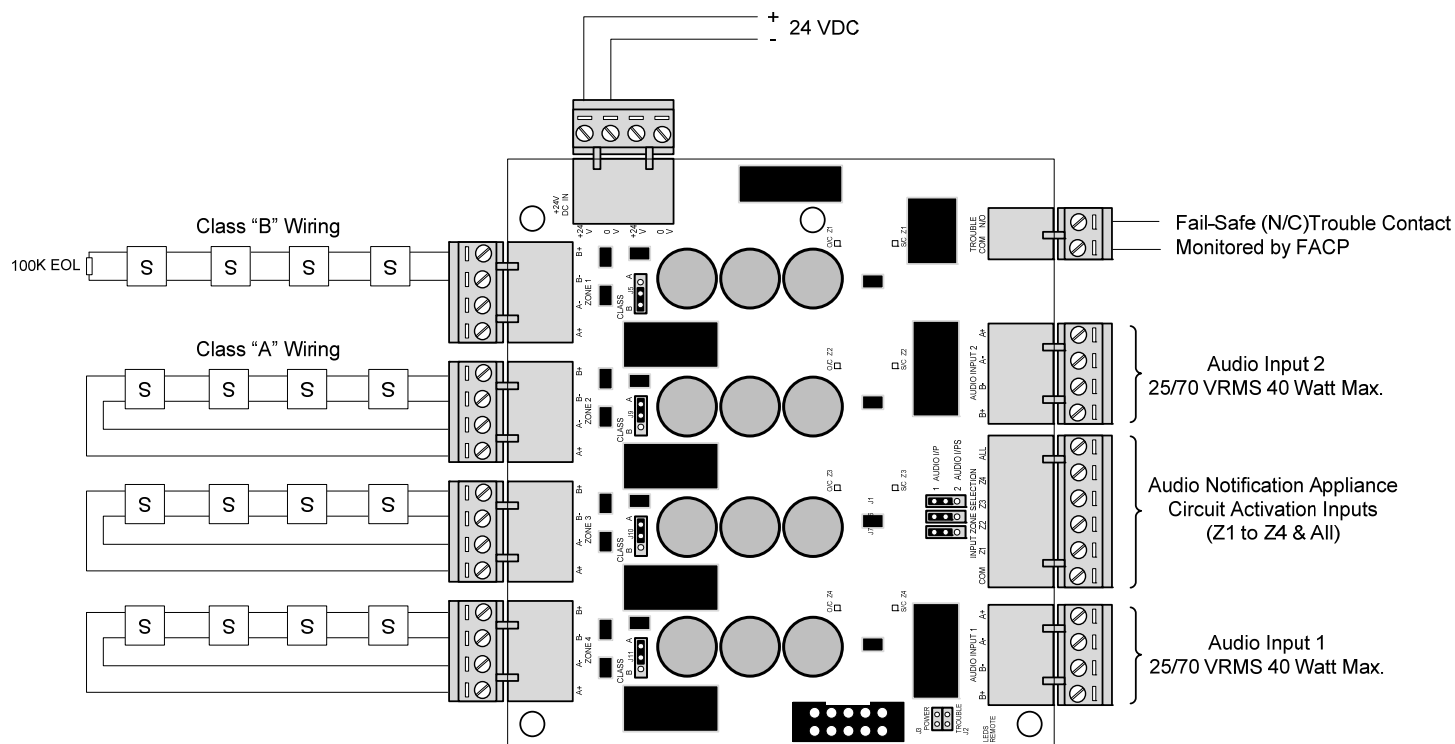

Figure 26 –AV-ZS Audio Zone Splitter Module
Wire 24 VDC (from AV-AMP-80 power output terminals) to the power input terminals of the AV-ZS audio zone splitter module. Wire one or both AV-AMP-80 amplifiers (audio notification appliance circuits) to the Audio Input 1 and Audio Input 2 terminals of the AV-ZS module and set jumpers J6 and J7 to their appropriate position [1 audio input or 2] (see figure 26).
Note: The AV-ZS audio zone splitter module reports status open circuit, short circuit and grounds via the associated AV-AMP-80 amplifier (audio notification appliance circuit). In addition, a fail-safe trouble relay contact is available which opens on any splitter audio notification appliance circuit trouble condition or on loss of 24 VDC input power, this trouble relay contact can be monitored for individual AV-ZS trouble indication (see figure 26).
If replacing an AV-ZS audio zone splitter module, remove power (AC and battery) from the system. Remove all field wiring terminal blocks from the AV-ZS module and remove the three (3) screws securing the module to the AV-AMP-80 amplifier. Place the new AV-ZS module over the metal hexagon spacers and reinsert and tighten the previously removed three (3) screws. It is critical that these screws be tightly secured as they are required for proper earth ground connection. Reinstall all removed field wiring terminal blocks from the AV-ZS module and reconnect AC and battery power to the system (see figure 26).